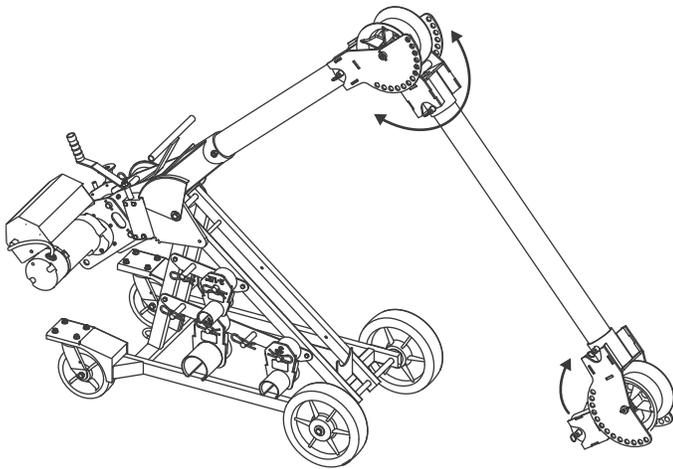

Figure 15: Position Elbow and Nose Unit to Desired Angle
3. Raise the forward boom until it is close to the angle desired for the pull setup. (Fig. 15)